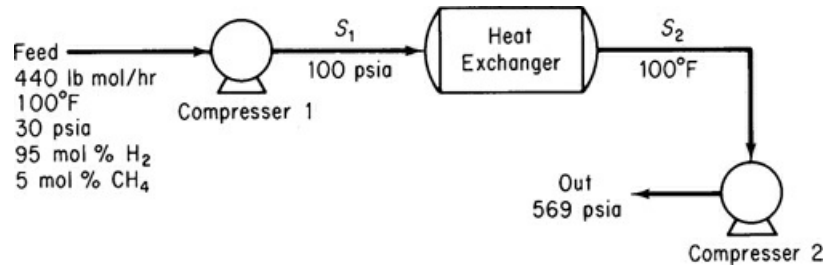

Figure P14.12
14.12 A gas consisting of 95 mol % hydrogen and 5 mol % methane at 100°F and 30 psia is to be compressed to 569 psia at a rate of 440 lb mol/hr. A two-stage compressor system has been proposed with intermediate cooling of the gas to 100°F via a heat exchanger. See Figure P14.12. The pressure drop in the heat exchanger from the inlet stream (S 1) to the exit stream (S 2) is 2.0 psia. Using a process simulator program, analyze all of the stream parameters subject to the following constraints: The exit stream from the first stage is 100 psia; both compressors are positive-displacement type and have a mechanical efficiency of 0.8, a polytropic efficiency of 1.2, and a clearance fraction of 0.05.